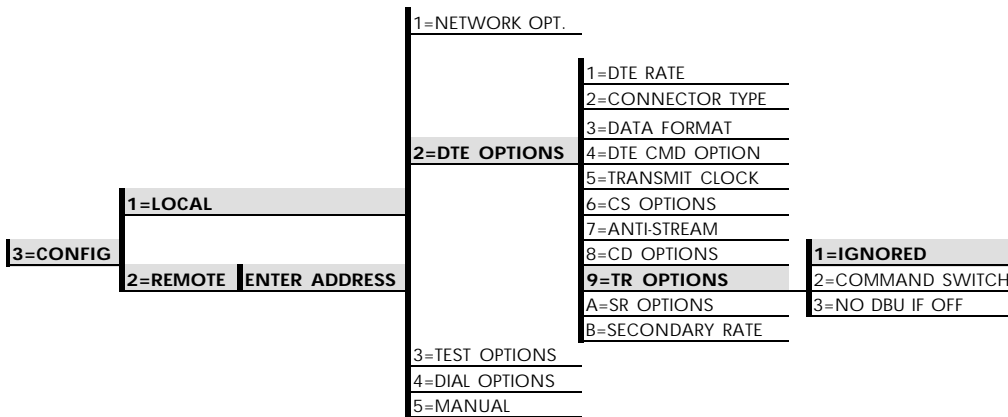

Figure 6-9
The TR Options menu is used to select the DSU III DBU response to the data terminal ready (TR) lead. The factory default setting is Ignored; see Figure 6-9.